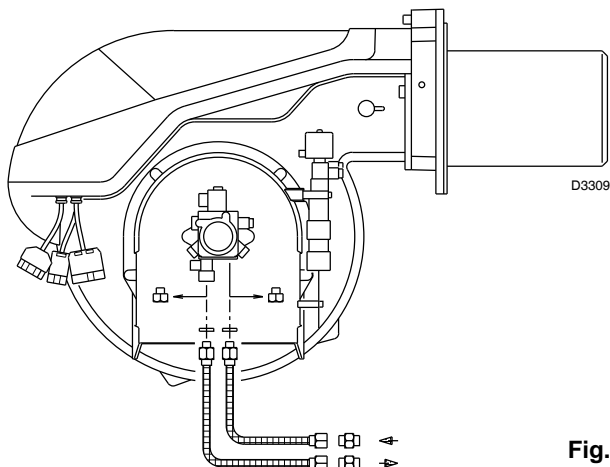

Fig. 16
6.2 Hydraulic connections (Fig. 16)